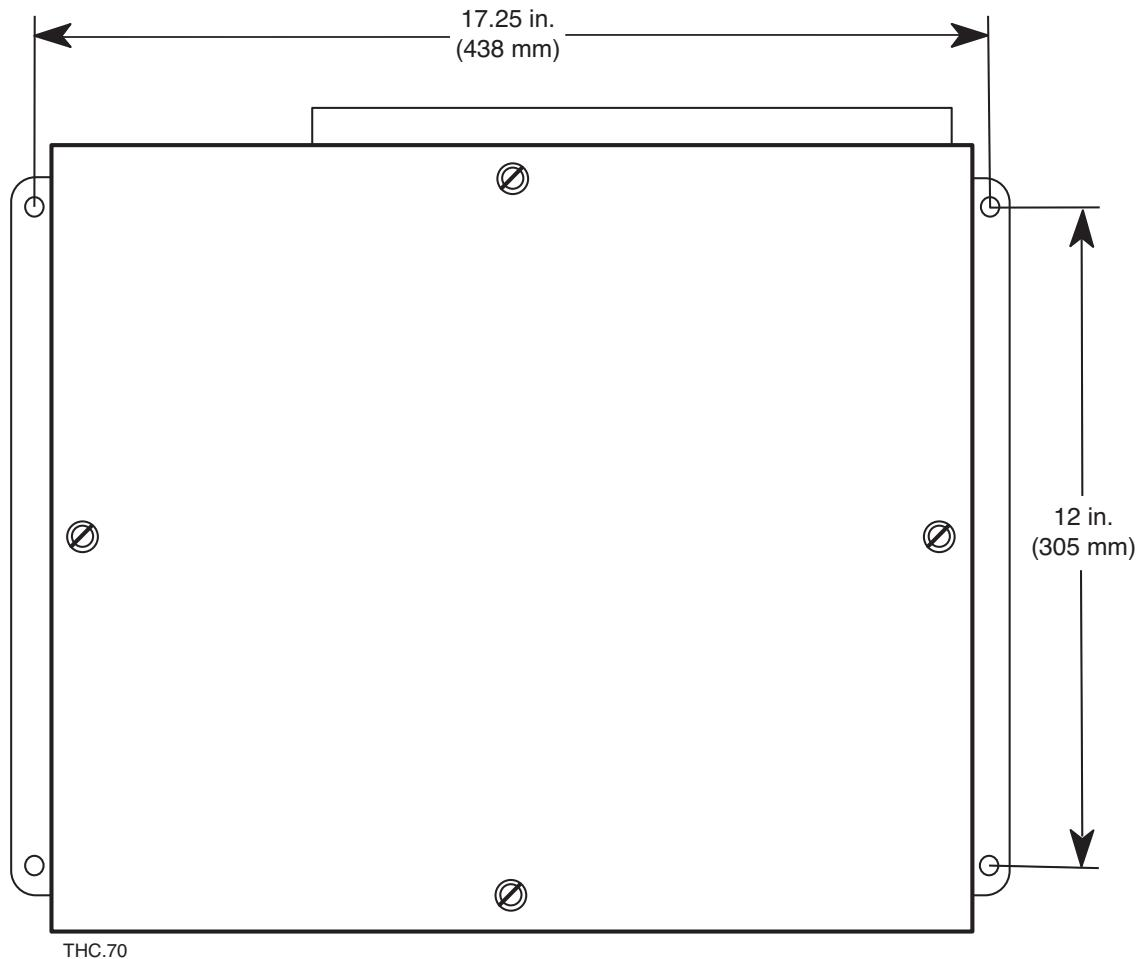

Figure 3-1 THC control module mounting
- Mount the THC control module close to the CNC controller for easy access to the THC system power and to provide easy access for routing and connecting cables. The unit can be mounted in any position except with the power module (AC receptacle and switch) facing up. Four mounting holes, requiring 1/4-inch (6 mm) fasteners, are provided. See Figure 3-1.